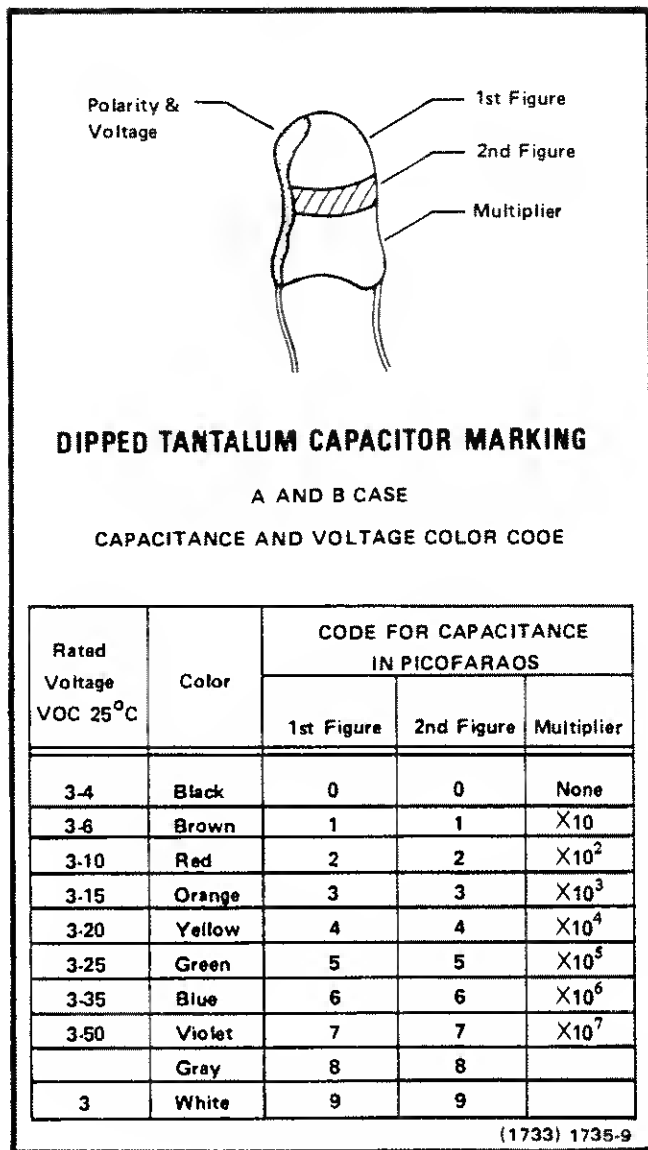

Fig. 6-2. Color code for some tantalum capacitors.
**Capacitor Marking.** The capacitance value of common disc capacitors and some electrolytics are marked in microfarads on the side of the component body. The white ceramic capacitors are color coded in picofarads. Tantalum capacitors are color coded as shown in Fig. 6-2.